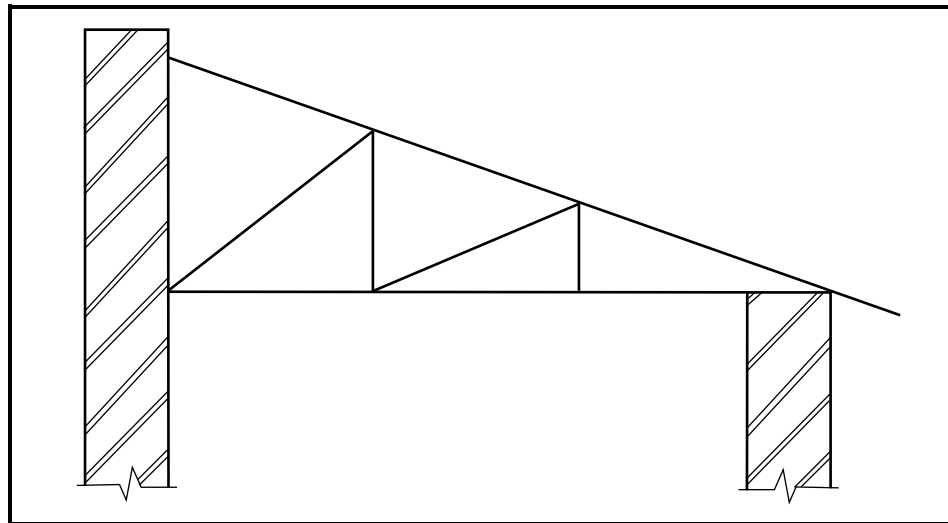

FIGURE 5.2
5.2 FIGURE 5.2 below shows the line diagram of a roof truss.